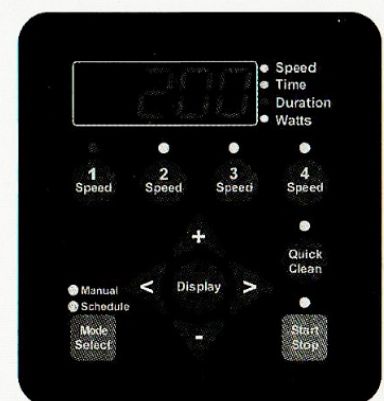

Figure 3
6. Press the "1" button again and the display will change to SPEED 1 duration. The "Duration" parameter LED will begin to blink. See Figure 3.